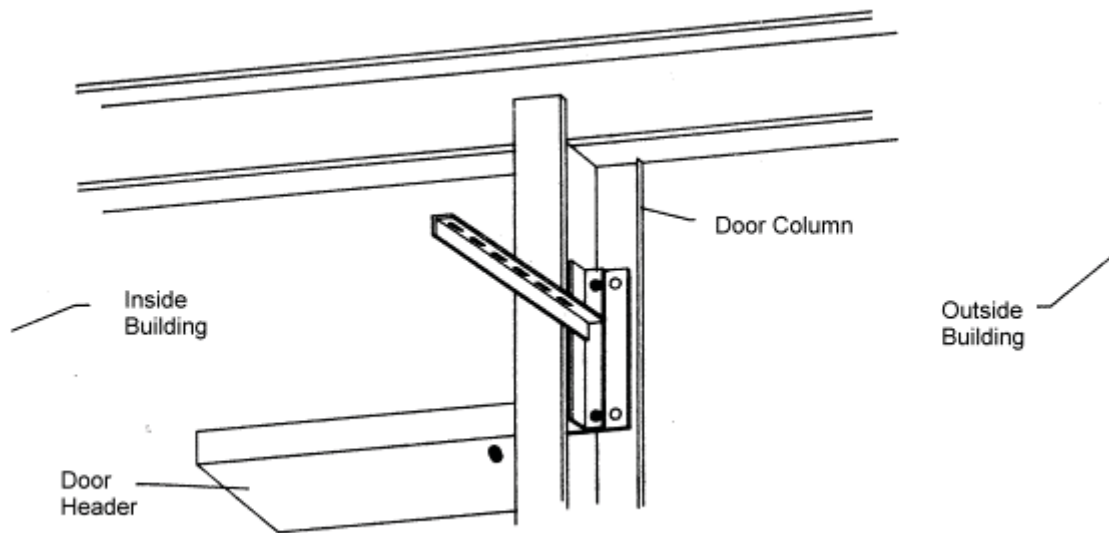

Figure 12: Door Support Brackets
- A. Bolt the brackets to the holes on the column as shown in figure 12.